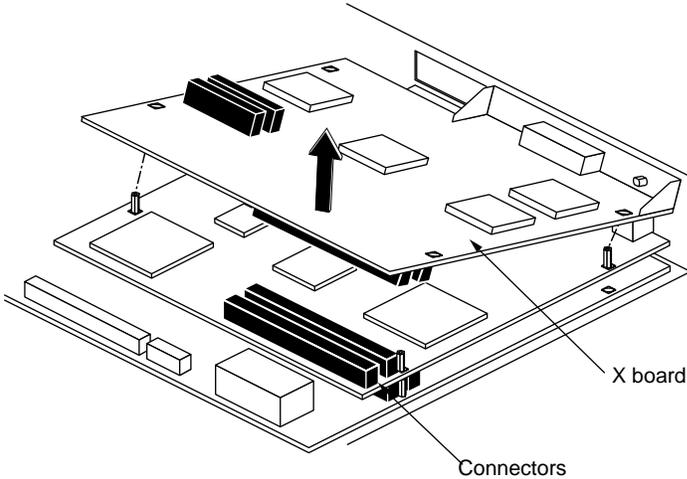

Figure 2-6 Disconnecting the X Board From the Z Board
- 3. Disconnect the X board from the Z board, by grasping the board firmly on the side close to the system disk drive and pulling up to disconnect the two connectors underneath the board. See Figure 2-6.